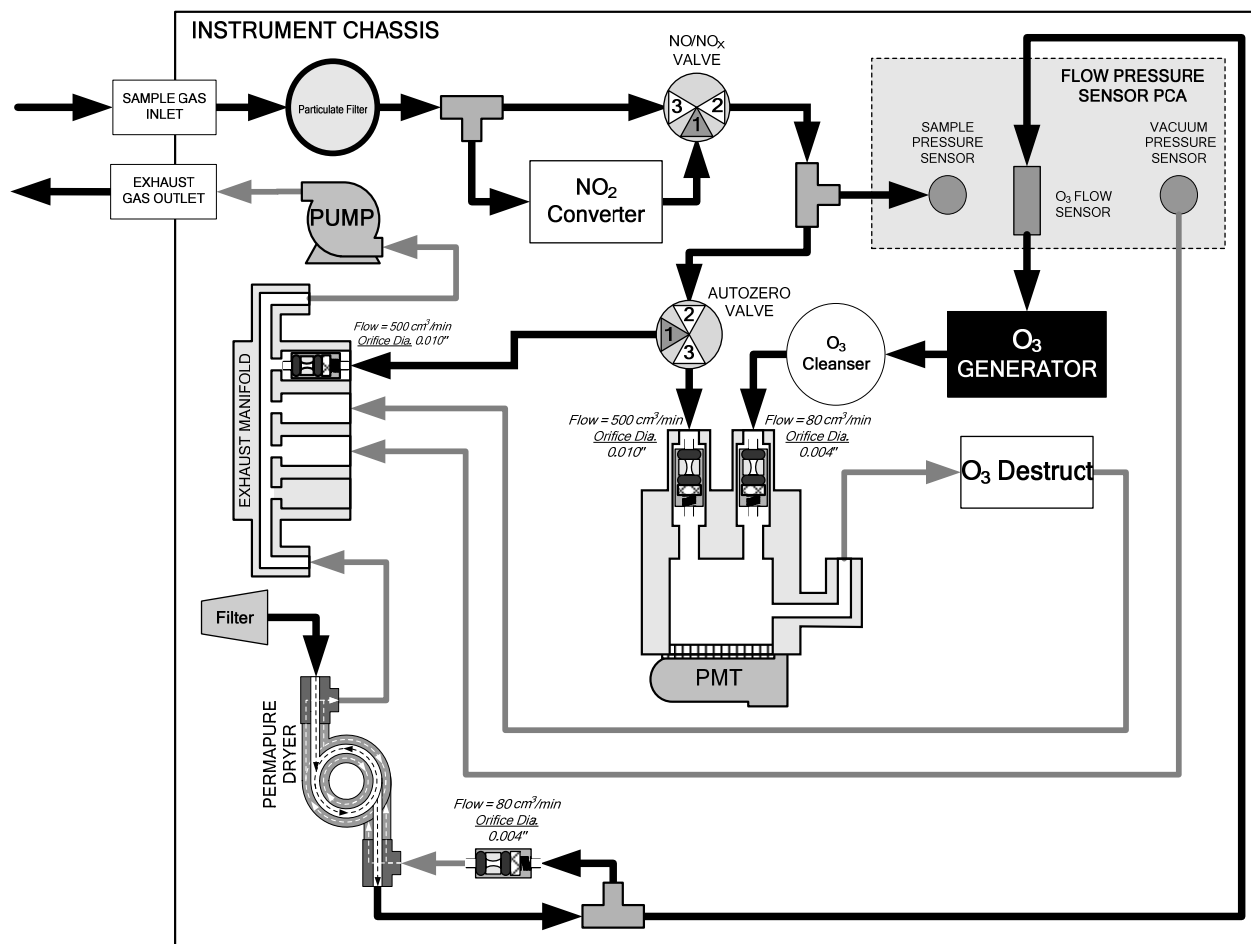

Figure 13-6: Basic Internal Gas Flow for Basic 9110T with Internal Pump
- An optional internal pump pneumatically connected between the vacuum manifold and the exhaust outlet. (see Figure 13-6).